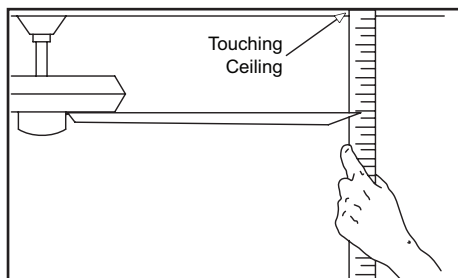

Figure 14
2. Most fan wobble problems are caused when blade levels are unequal. Check this level by selecting a point on the ceiling by measuring from a point on the center of each blade to the point on the ceiling. Measure this distance as shown in Figure 14. Rotate the fan until the next blade is positioned for measurement. Repeat for each blade. Measurements deviation should be within $1/8''$. Run the fan for 10 minutes.